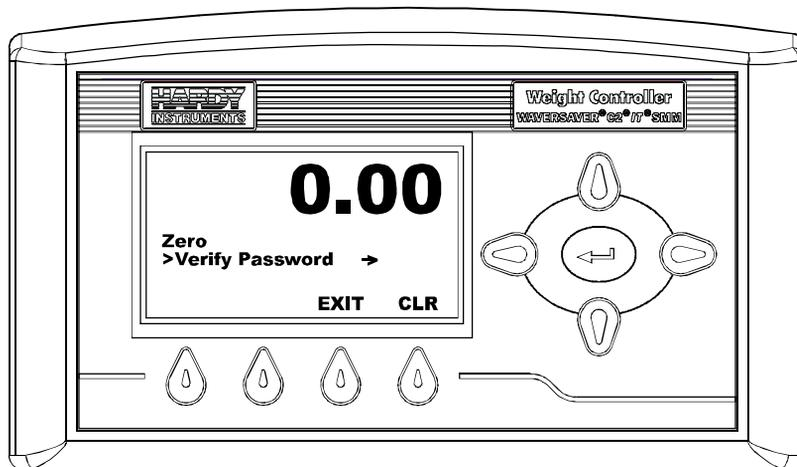

FIG. 286 ZERO MENU/VERIFYING PASSWORD
- Now to Tare or Zero the instrument you need a password. When you Tare or Zero the instrument a “Verify Password” display appears. (See Fig. 286)